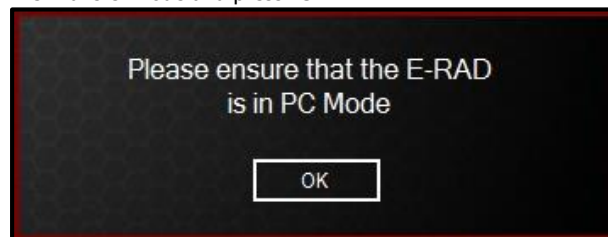

Figure 6.2-4: PC Mode Prompt Window
**Note:** If the E-RAD BLU is not in PC Transfer Mode, a prompt window will appear (Figure 6.2-4). Ensure the E-RAD BLU is in PC Transfer Mode and press "OK".